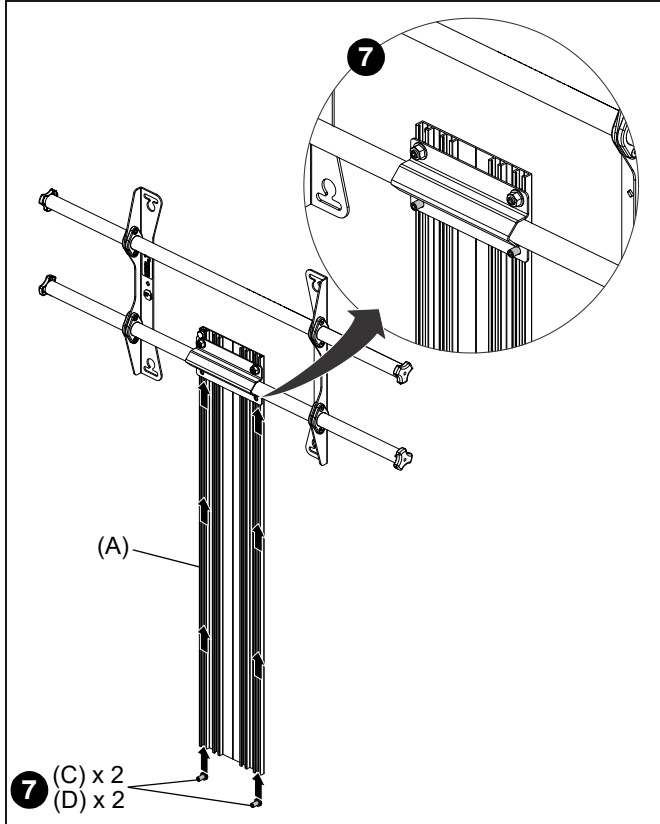

Figure 5
7. Slide two assembled M8 x 20mm screws (C) and M8 nuts (D) up into the outside channels from the bottom of the upright extrusion (A) until they are positioned through the bottom holes in the bar clamp. Tighten the screws to hold them in position. (See Figure 5)